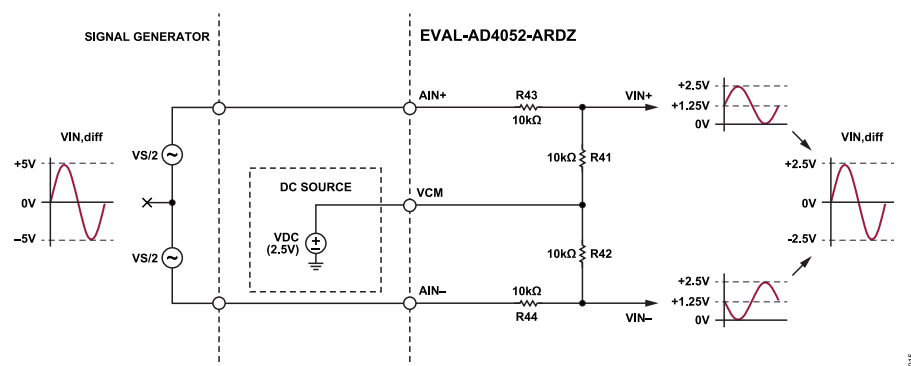

Figure 15. Floating Differential Signal Generator Example
- For signal generators with floating, differential outputs, the VCM input provides a means to apply the necessary DC offset to satisfy the input range specification of the MAX44260 amplifiers. Figure 15 gives an example with a 2.5 V V_{REF} and amplifiers in unity-gain configuration. The differential input swing ($V_{in, diff}$) is 5 V peak or 10 V p-p and V_{CM} is 1.25 V DC.